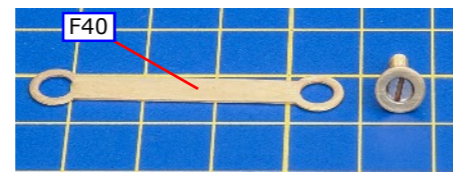

Fig 28. Drawbar
**Drawbar.** Attach a washer to the head of a 6BA screw (see Fig.28), remove the cusp from the insides of the pivot holes so that the drawbar (F40) fits over the head of the screw. Pass the drawbar through the rear drag beam and use the screw to retain.